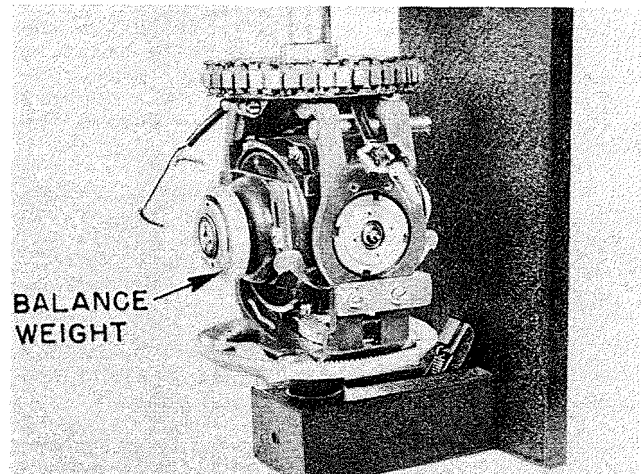

Figure 47A
2. With the vertical gimbal and gyro assembly in fixture T100588, rest the fixture on end. (See figure 47A.) Centralize the knurled balance weight. Set the gyro horizontal and note the direction in which it departs from the setting. By means of the adjustable lock nut shift the rotor until the gyro will remain approximately horizontal. Secure the lock nut in place with its fillister-head screw, and check to see that the stator shaft screw is tight after making adjustments.